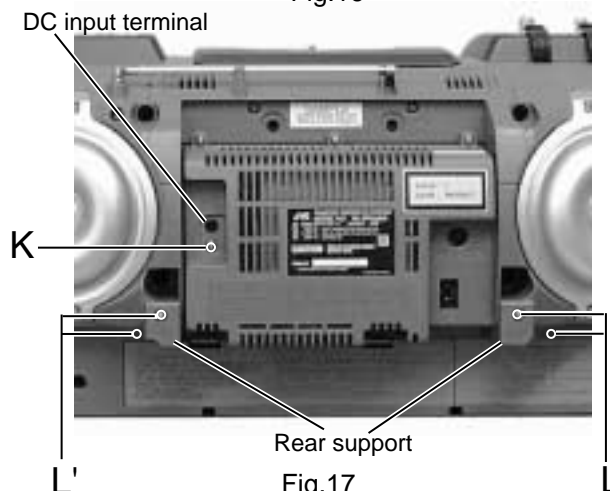

Fig.17
■ Removing the rear support and battery lid (See Fig.17 and 18)